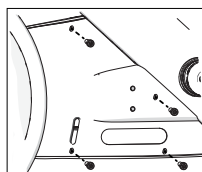

Figure 4
3. Remove the four bolts holding on the back cover and remove it (Figure 4).